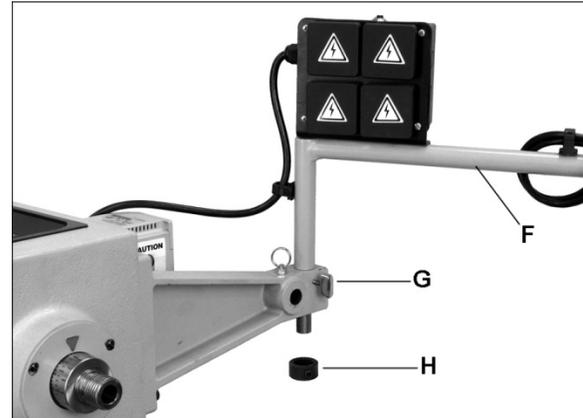

Figure 9
- Install shaft of lamp holder (F, Figure 9) into guard bracket hole, and tighten handle (G).
- Install collar (H) beneath and tighten set screw on collar.